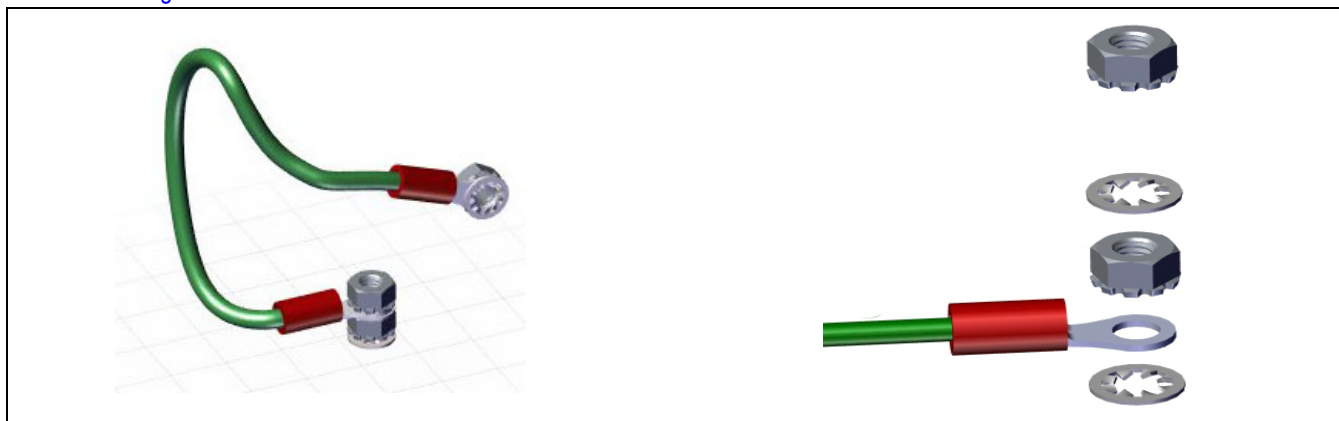

Figure 2-8. Grounding Bond
*Proper grounding must be done between the power supply and the backplate of the indicator. The preferred grounding method is illustrated in Figure 2-8.*